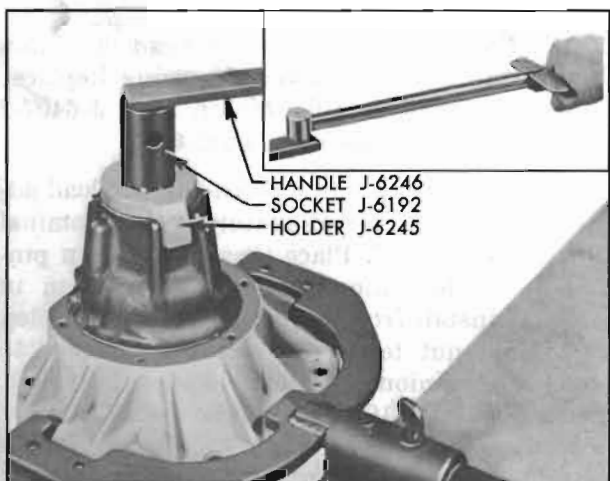
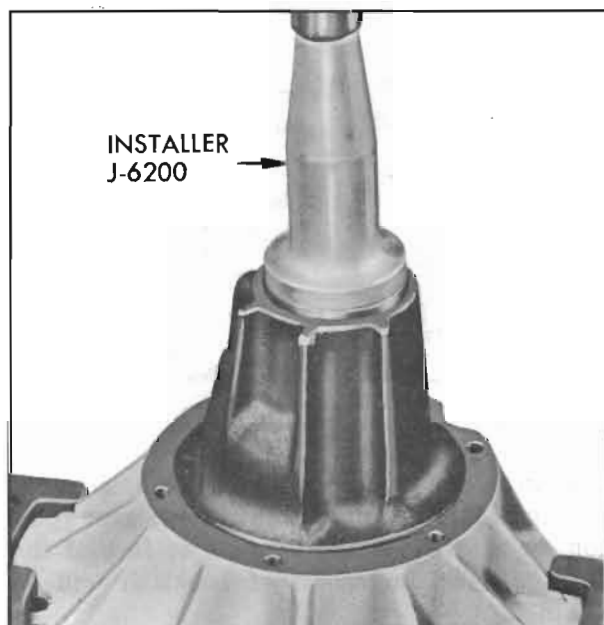

Figure 6-26—Tightening Pinion Nut
Figure 6-32—Installing Pinion Seal
amounts to an actual 250 ft. lbs. torque at nut.) See figure 6-26.
6. Lubricate new pinion seal with axle lubricant and install with lip toward bearing, using Installer J-6200. See Figure 6-32. Reinstall pinion and bearings carefully in carrier with new thickness pre-load spacers. Install pinion nut and tighten to 80 foot pounds using Torque Wrench J-1313 in outer end of Handle J-6246 as shown in figure 6-26.